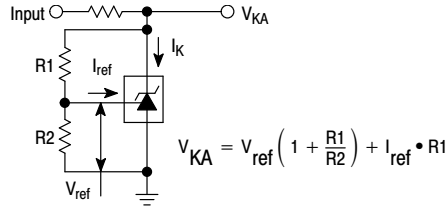

Figure 2. Test Circuit for $V_{KA} > V_{ref}$
3. The dynamic impedance Z_{KA} is defined as: $|Z_{KA}| = \frac{\Delta V_{KA}}{\Delta I_K}$. When the device is programmed with two external resistors, R1 and R2, (refer to Figure 2) the total dynamic impedance of the circuit is defined as: $|Z_{KA}'| \approx |Z_{KA}| \left(1 + \frac{R1}{R2} \right)$
6. The dynamic impedance Z_{KA} is defined as $|Z_{KA}| = \frac{\Delta V_{KA}}{\Delta I_K}$. When the device is programmed with two external resistors, R1 and R2, (refer to Figure 2) the total dynamic impedance of the circuit is defined as: $|Z_{KA}'| \approx |Z_{KA}| \left(1 + \frac{R1}{R2} \right)$